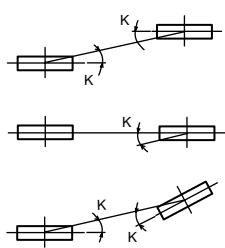

figure1 Parallel degree of pulley
- Set the parallel angle of the fan and the motor pulley as shown in the table and figure 1 below.
- Set the tension of the per one belt when the flexion load is within the range as shown in the figure 1 and table 2 below at the proper flexion. ( $A = 0.016 \times C \text{ mm}$ )